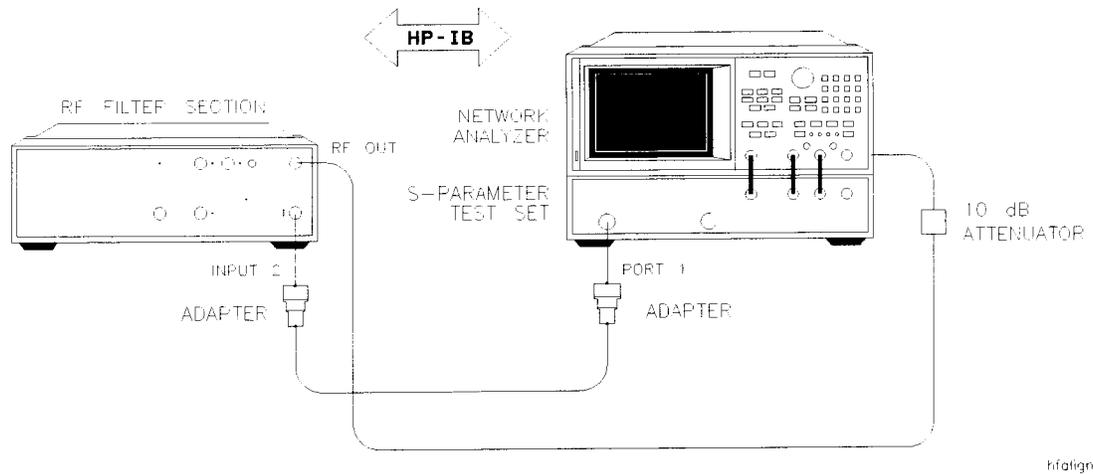

Figure 2-7 High Frequency Alignment, Input 2 Setup
- The test equipment must be connected as shown in Figure 2-7 on page 2-27.
Figure 2-7 on page 2-27 shows the adjustment setup.